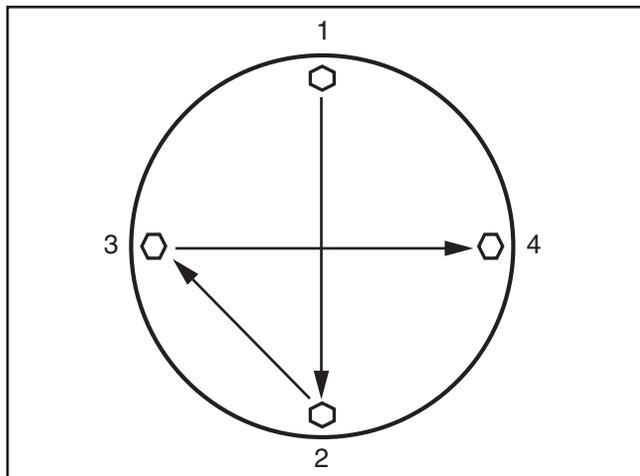

Figure 21. Fastener tightening sequence.
19. Tighten bolts in the sequence shown in **Figure 21**.
24. Using the pattern shown in **Figure 21** on **Page 19**, final tighten all hex nuts and hex bolts installed in **Steps 22–25**.